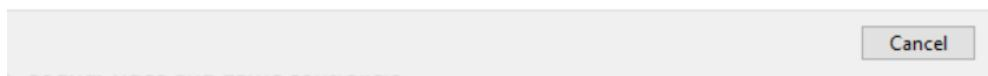

Figure 42: Selecting to Browse for Driver Software Directory
- Navigate to the path shown in Figure 42. This should be the path where you have installed Quartus on your computer.